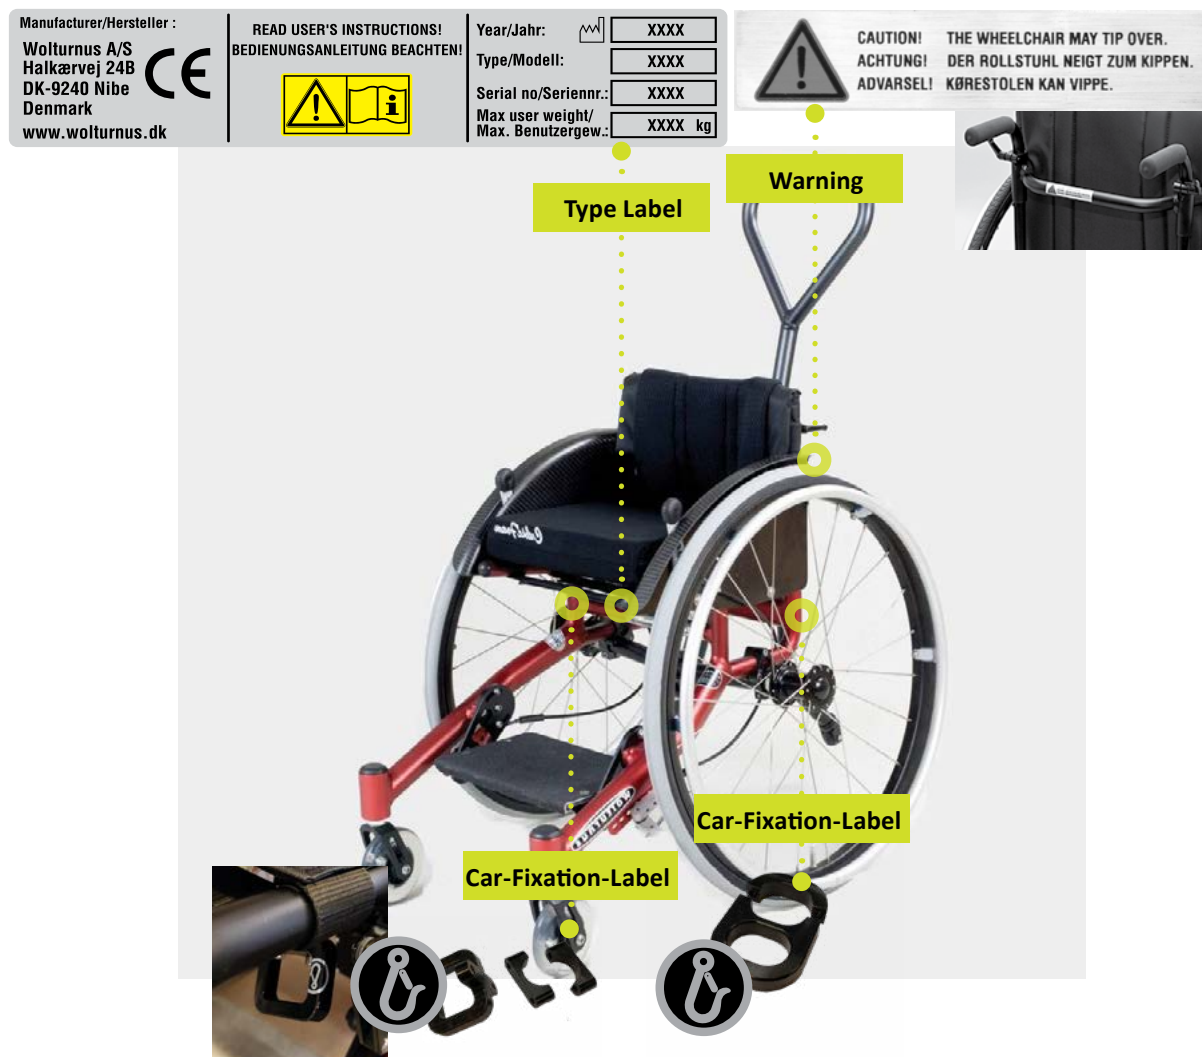

Fig. 1 Placering af typemærkat, anti-tip advarsel og fastgørelsespunkter
UDI-DI is the Global Trade Item Number (GTIN) identified by prefix (01) on the nameplate, see Fig. 1.
UDI-PI is composed of the manufacturing date, identified by prefix (11), and the serial number identified by prefix (21), both on the nameplate, see Fig. 1.